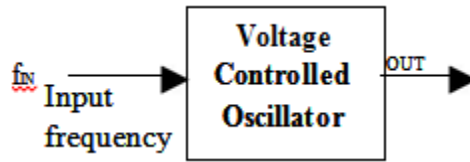

Figure 13 VCO
- The third section of PLL is the VCO shown in figure 13; it generates an output frequency that is directly proportional to its input voltage. The maximum output frequency of NE/SE 566 is 500 KHz